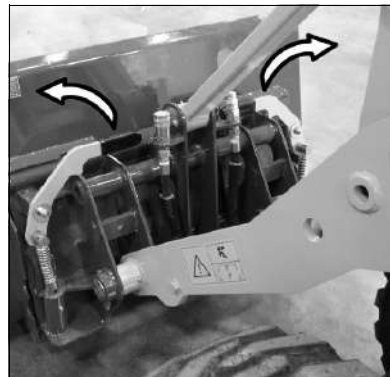

Figure 45 – Standard All-Tach® System Hitch Unlocked
3. Pull the locking handles upward until the pins disengage from the attachment (Fig. 45) Perform “Engine Start” on page 67.